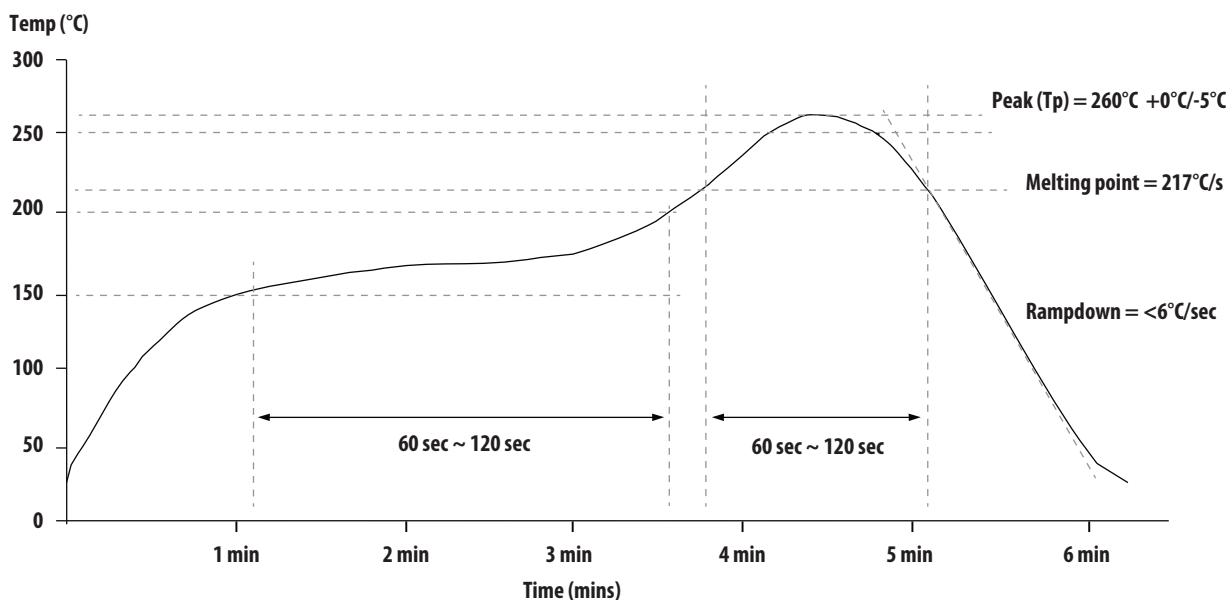

Figure 31. Recommended reflow profile
The recommended lead free solder for SMT reflow is Sn-Ag-Cu (95.5% Tin/3.8% Silver/0.7% Copper). This lead free solder paste has a melting point of 217 °C (423 °F), the ternary eutectic of Sn-Ag-Cu system, giving it the advantage of being the lowest melting lead free alternative. This temperature is still low enough to avoid damaging the internal circuitry during solder reflow operations provided the time of exposure at peak reflow temperature versus time is shown in Figure 31.
The solder paste used in this evaluation is RX 303-92 SK HO(S) by Nihon Handa. Profile in Figure 31 is recommended in automated reflow process to ensure reliable finished joints. However, profile will vary among different solder paste from different manufacturers. Other factors that may affect the profile includes the density and type of components on the board, type of solder and type of board or substrate material being used. The profile shows the actual temperature that should occur on the surface of a test board at or near a central solder joint. During this type of reflow soldering, the circuit board and solder joints tend to heat first. The components on the board are then heated by conduction. The circuit because it has a large surface area, absorbs thermal energy more efficiently, and then distributes this heat to the components.